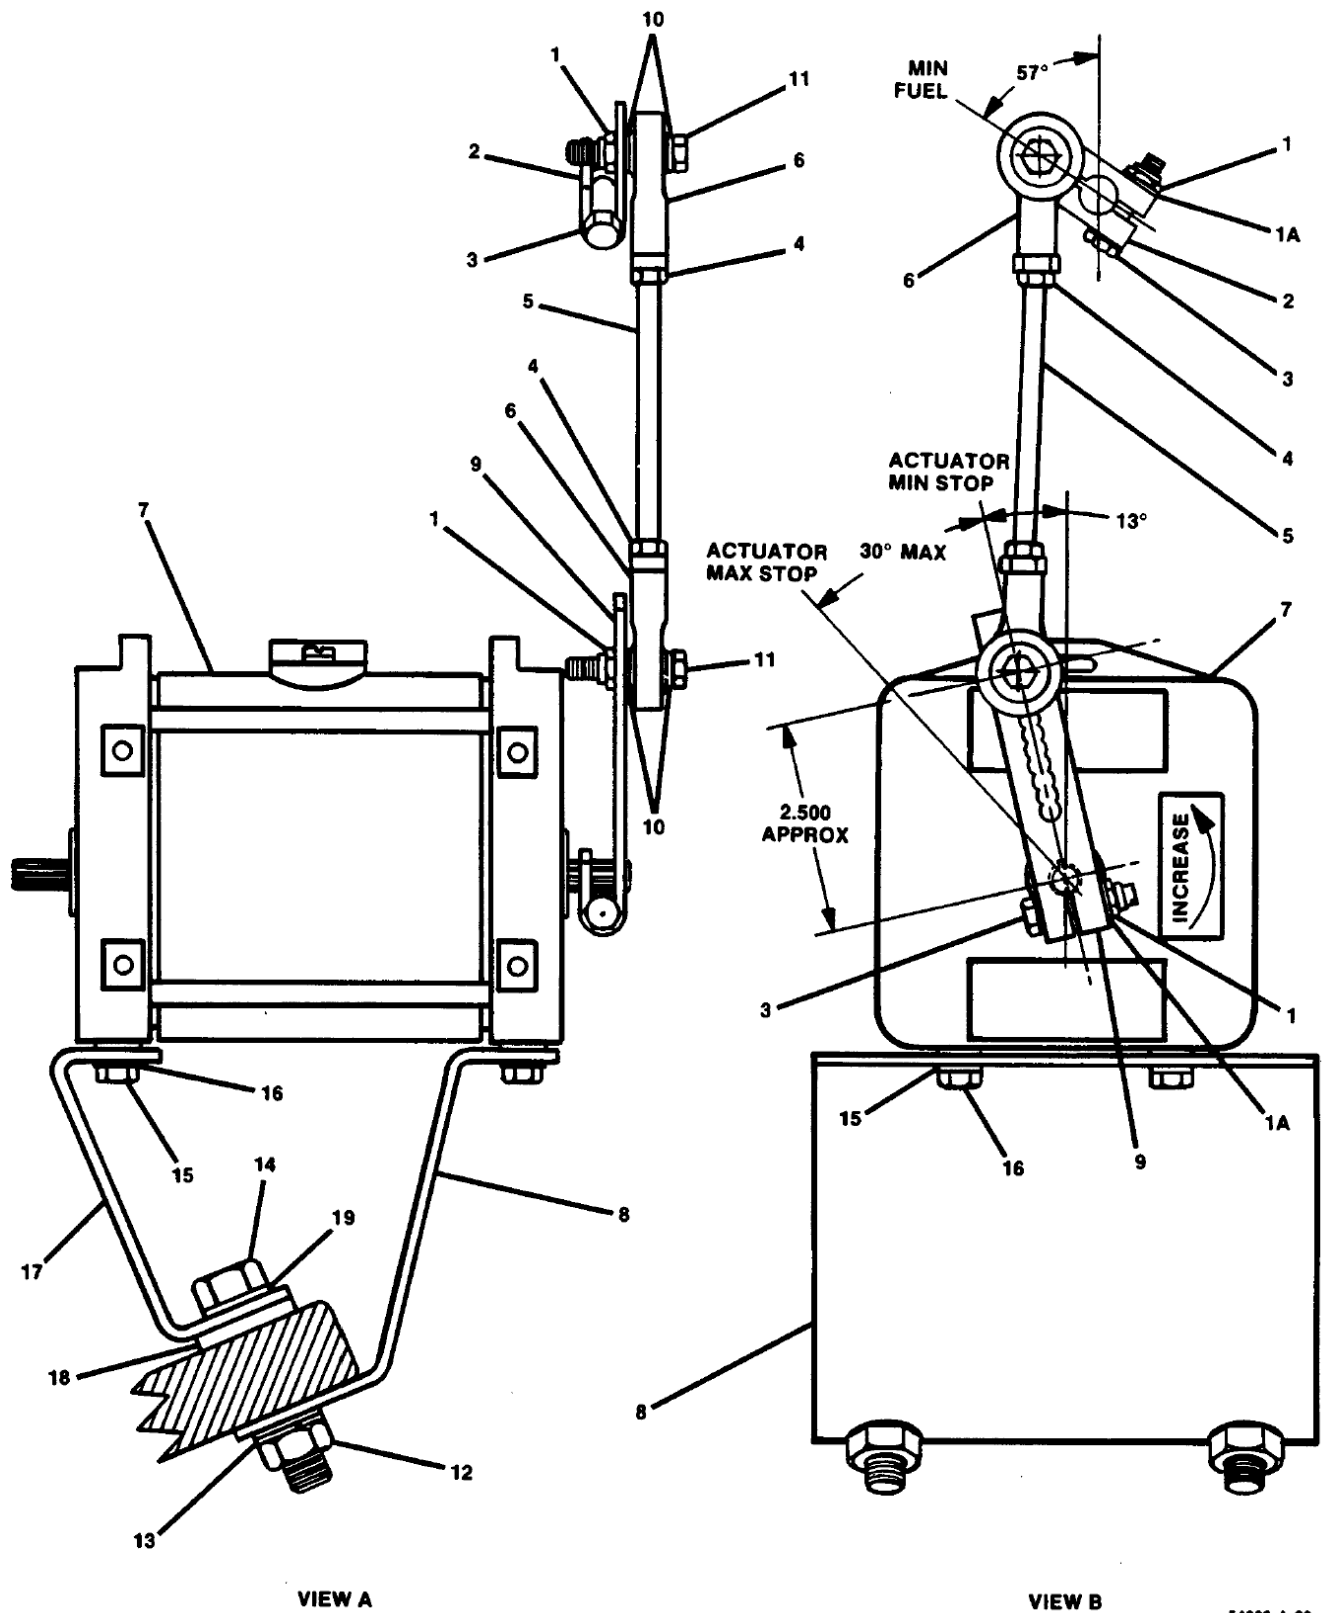

Figure 2. Installation of the Actuator and Bracket
1. Attach the two mounting brackets (Numbers 8 and 17, Figure 2) with the appropriate washers and lock washers. Notice the location of the two 1/14-inch-thick spacers which go on top of the mounting area and below the inside bracket. **Do not tighten the mounting bolts.**
14. Assemble the rod ends on the two levers supplied. The rod end goes in the last hole in the long lever. Use the 0.250-28 x 1.250 hex-head screw through the lever, a split lock washer, the rod end, a second splitlock washer and the 0.250-28 elastic stop nut for the installation. (See Figure 2, View A.)
6. Attach the actuator-rod-lever assembly to the actuator and fuel pump as shown in view B of Figure 2. The angular relationships, with both the actuator and the fuel pump at minimum fuel, are important. When properly installed, the actuator lever and the fuel rod should be about 10 degrees from laying flat. The actuator will be at minimum fuel with no power input.